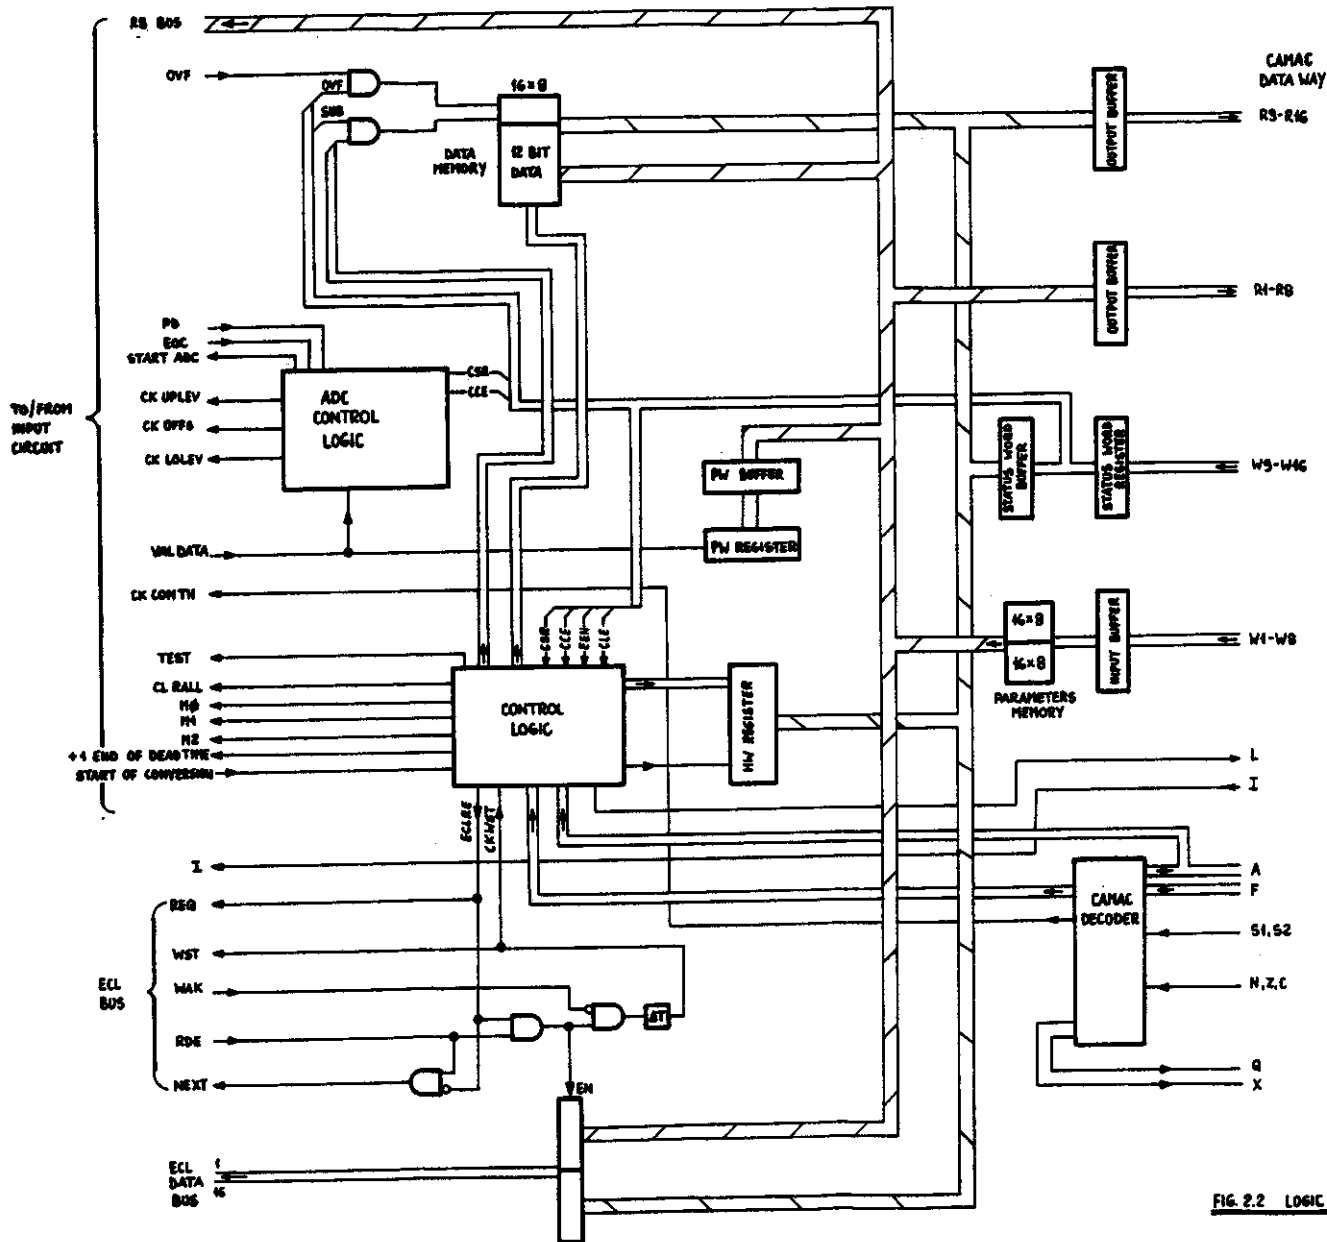

FIG. 2.2 LOGIC CIRCUIT BLOCK DIAGRAM 4416/V
2.2 Description (see fig. 2.1 and Fig. 2.2)